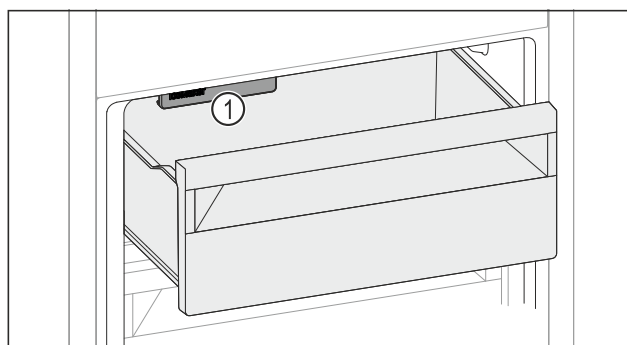

Fig. 142
- If you put food in the left side of the drawer: Pay attention to the IceMaker Fig. 142 (1).